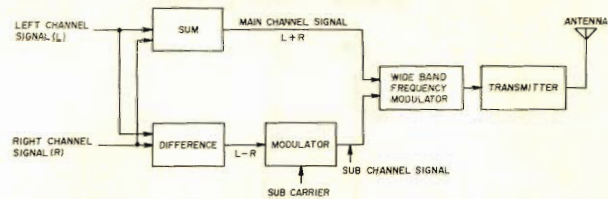

Fig. 11 FM Broadcasting System Diagram
As shown in Fig. 11, for FM broadcasts, the sum signal (L+R) consists of left signal (L) and right signal (R) and the audio frequency band of this signal in its original form is frequency modulated. On the other hand, the difference signal of both (L-R) is changed to high frequency through the use of the sub carrier, and is referred to as the sub channel signal. The carrier is further frequency modulated and sent to the FM stereo transmitter.